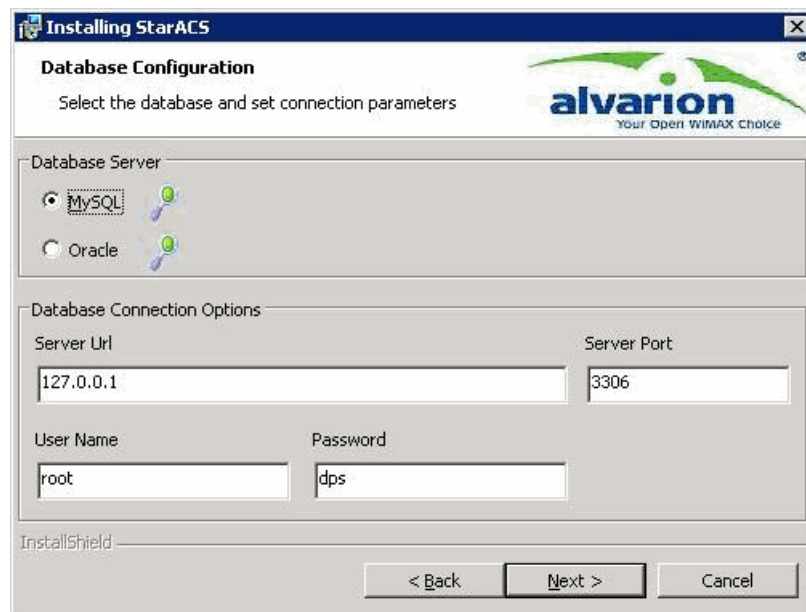

Figure 4: Database Configuration - MySQL
- 4 Database Configuration (Figure 4) – Select MySQL server, enter the Database Connection options: Server URL, Server Port, User Name, and Password. Click Next.